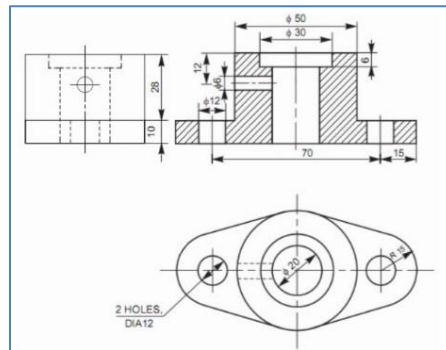

Figure 20: 2D Layout of the part.
14.1 To Utilize the previously mentioned CNC operations to get final part made as shown in figure 20.